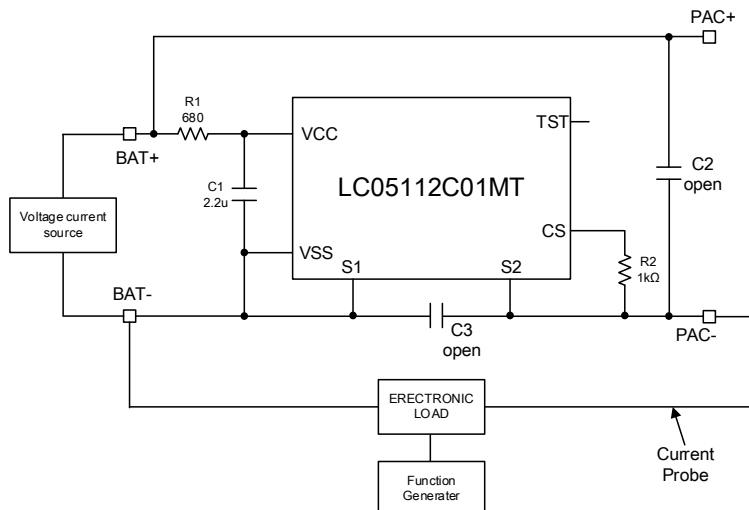

Figure2. LC05112C01MTGEVB Recommended Test Set Up for Charge/Discharge Current detection
1. Connect LC05112C01MTGEVB like upper Figure2.